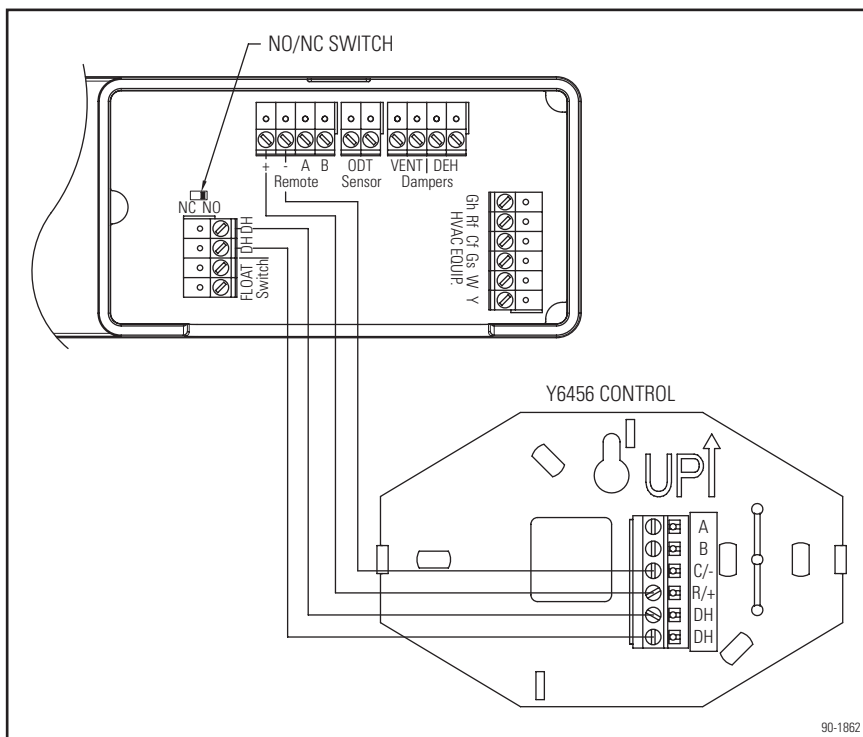

Figure 23. Y6456 External Control Wiring
The Y6456 uses a normally open (NO), dry contact (i.e. not a triac or other semiconductor) relay to complete the circuit between the DH terminals of the dehumidifier control. If using other controls such as a thermostat with dehumidification outputs, ensure the output is a dry contact type and set the NO/NC switch on the dehumidifier control (see **Figure 23**) to correspond with the control being used.